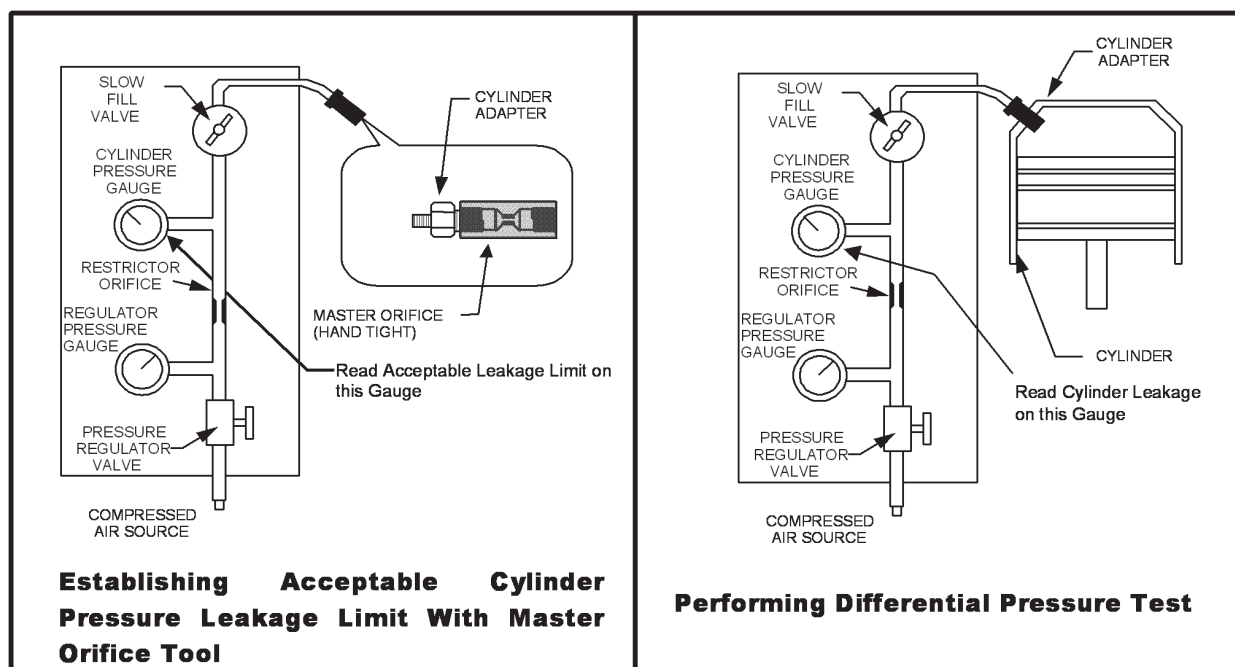

Figure 6-66. Differential Pressure Test Equipment Usage
4. Install the cylinder adapter in the spark plug hole and connect the Differential Pressure Tester to the cylinder adapter (Figure 6-66).